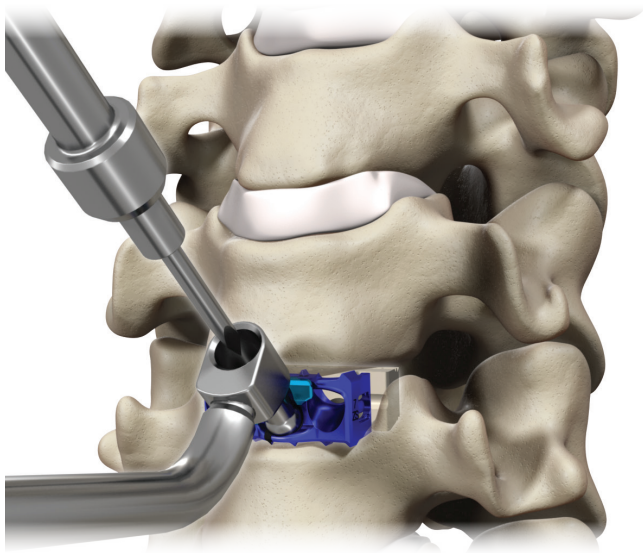

Figure 80
- Prepare the midline screw hole using the fixed or variable drill guide. The fixed or variable drill allows the awl/drill (straight, flexible or U-joint options) to prepare for the midline screw hole. Seat the guide tip into the medial screw hole. Place the awl/drill through the selected drill guide until the positive stop contacts the guide. The awl/drill will create a pilot hole 6 mm deep. Intra-operative imaging should be used to verify awl/drill position and to determine the appropriate length screw (Figure 80).